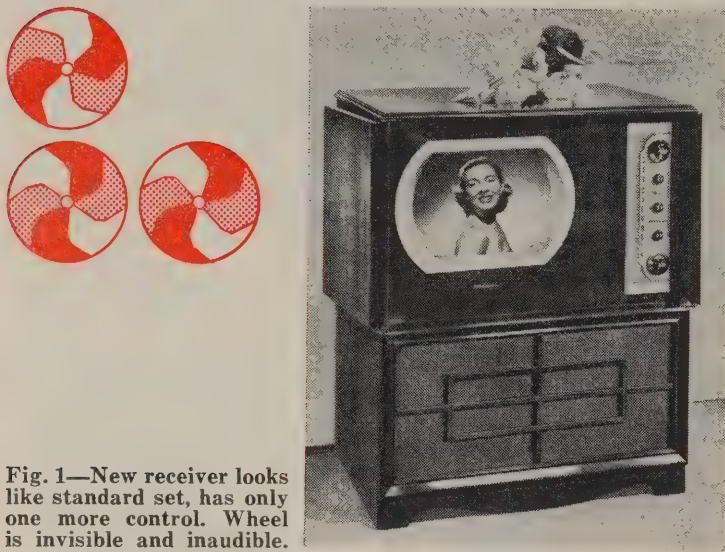

Fig. 1—New receiver looks like standard set, has only one more control. Wheel is invisible and inaudible.
**A** COMPLETELY self-contained television receiver which can receive both black-and-white transmission and CBS color transmission is an important advance in the television field. The console unit shown in Fig. 1 contains—within an exterior no larger than most current black-and-white television models—what the viewing public looks at as a somewhat magical device which reproduces either color or monochrome pictures with the flick of one simple switch.